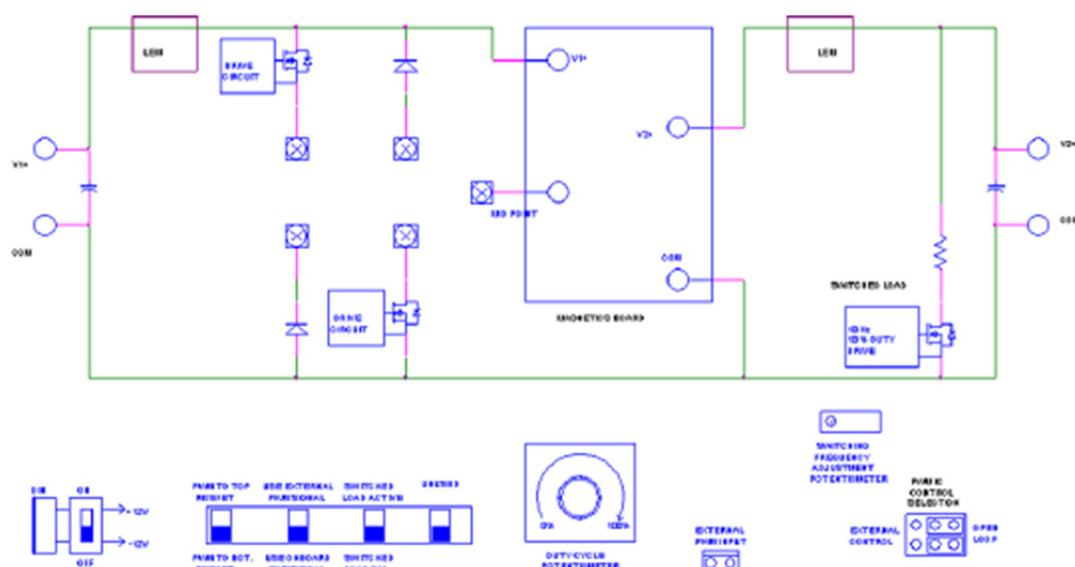
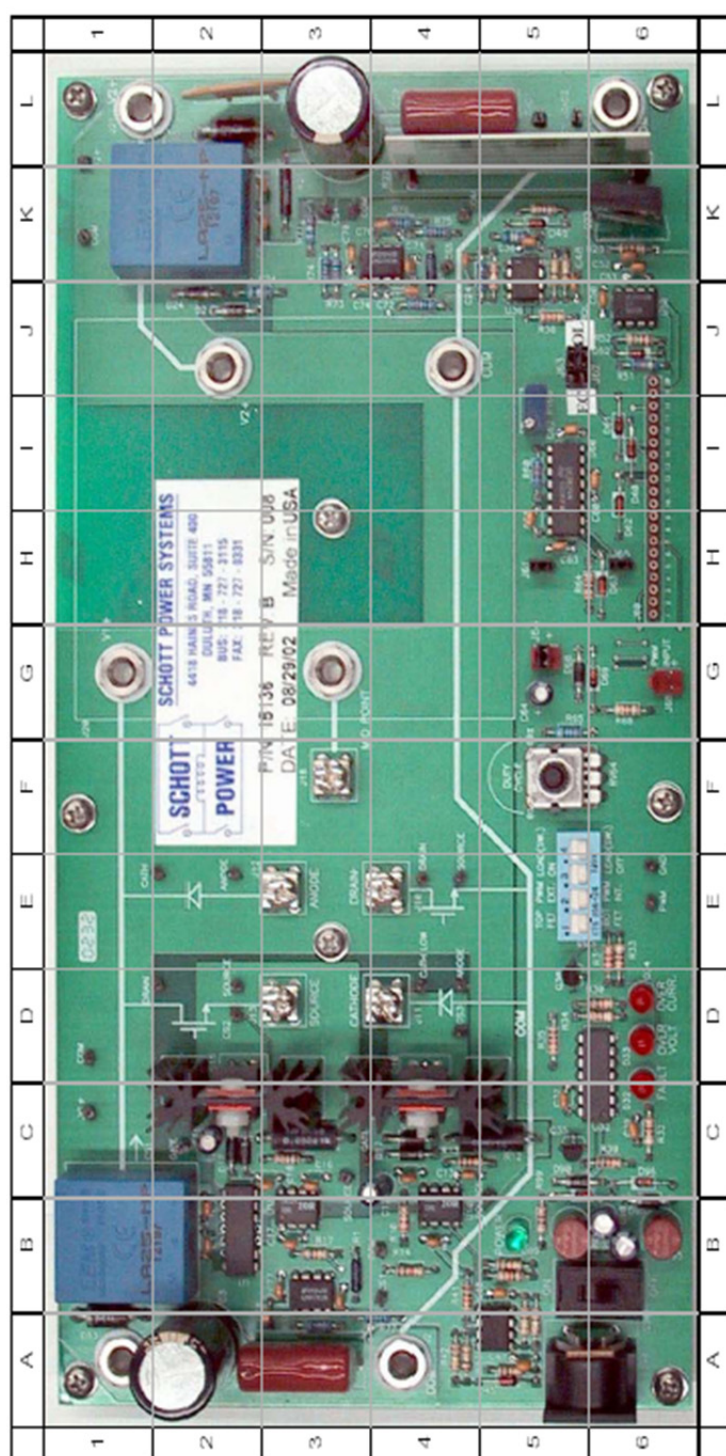

Figure 1.1: Block Diagram of Power-pole Board
Figure 1.2: Power-pole Board
The basic block diagram of the Power-pole Board is shown in Fig. 1.1 and the actual board is shown in Fig. 1.2. Please note that the locations of the various components on the board are indicated in Table 1.1.
- Connect the positive and negative terminals of an **oscilloscope probe** to the *DRAIN* and *SOURCE* (D-2 in Fig. 1.2) of the upper MOSFET.
- Connect the positive and negative terminals of an **oscilloscope probe** to terminals CS2 and *SOURCE* (D-2 in Fig. 1.2) of the upper MOSFET. The current sense resistor value is 0.05Ω.
- Connect an oscilloscope probe to the *DRAIN* and its ground to the *SOURCE* (E-4 in Fig.1.2) of the lower MOSFET.
- Connect an oscilloscope probe to terminal CS3 and its ground to the *SOURCE* (E-4 in Fig.1.2) of the lower MOSFET. The current sense resistor value is 0.05 Ω. The same test points also measure the lower diode current if that is included in the circuit.
- Connect the positive and negative terminals of an **oscilloscope probe** to terminals *CATH* and *ANODE* (E-2 in Fig. 1.2) of the upper diode.
- Connect an oscilloscope probe to *CATH LOW* and its ground to the *ANODE* of the lower diode (D-4 in Fig. 1.2).
± 12 volts signal supply is required for the MOSFET drive circuits and also the measurement and protection circuits. This is obtained from a wall-mounted isolated power supply, which plugs into the DIN connector J90 (A-5 in Fig. 1.2). Switch S90 (B-6 in Fig. 1.2) controls the signal power to the board. Each time a fault occurs, turn off and turn on this switch to reset the board. The green LED D99 (B-5 in Fig. 1.2) indicates if the $+12$ V signal supply is available to the board. Fuses F90 (B-5 in Fig. 1.2) and F95 (B-6 in Fig. 1.2) provide protection for the $+12$ V and -12 V supplies respectively.
Any external load needs to be connected across terminals V2+ and COM (L-1 and L-6 in Fig.1.2).
An onboard switched load is provided to facilitate the observation of the transient response of any converter built using the power-pole. Thus, it is possible to periodically switch in and out a $20\ \Omega$ load (K-4 to K-6 in Fig. 1.2). The frequency and duty ratio of this load is fixed at 10 Hz and 10%.
- Put switch 3 of selector switch bank S30 (E-5 in Fig. 1.2) to the top position (Load (SW) ON).
- Connect the positive and negative terminals of an **oscilloscope probe** to CS LOAD 1 and CS LOAD 2 (L-5 in Fig. 1.2). This measures the voltage across the $20\ \Omega$ resistor.
- Connect the oscilloscope probe to test point V1+ (C-1 in Fig. 1.2) and its ground to COM (D-1 in Fig. 1.2).
- Connect the oscilloscope probe to test point V2+ (L-1 in Fig. 1.2) and its ground to COM (K-1 in Fig. 1.2).
LEM current sensors (B-1, K-2 in Fig. 1.2) are provided to measure the input and output currents. The input current sensor is located after the input filter capacitor, and the output current sensor is located before the output filter capacitor. Calibration of these current sensors is such that for 1A current flowing through each, the output is 0.5 V. So these sensors are actually current to voltage converters. These signals are amplified by a factor of 2 and are brought out to the daughter board connector J60, for use in feedback current control. Currents through the MOSFETs and output capacitor are measured using current sense resistors. Refer to Table 1.2 for details of the various current measurement test points.
- Connect oscilloscope probe to CS1 (B-4 in Fig. 1.2) and its ground to COM (B-4 in Fig.1.2).
- Connect oscilloscope probe to CS5 (K-4 in Fig. 1.2) and its ground to COM (K-4 in Fig.1.2).
- Connect oscilloscope probe to CS4 (K-3 in Fig. 1.2) and its ground to COM (K-3 in Fig.1.2). The current sense resistor value is 0.1 Ω .
The power-pole MOSFETs are driven by high side drivers IR2127. These drivers have in-built over current protection using a current-sense resistor for each MOSFET (see locations C-3 and C-5 in Fig. 1.2). The voltage across these sense resistors can be observed using test points provided on the board.
PWM signals required for the MOSFETs can be generated using the on-board PWM controller UC3824 (I-5 in Fig. 1.2). There is also an option to supply PWM signals from an external source.
- Put switch 2 of the selector switch bank S30 (E-5 in Fig. 1.2) to its bottom position (PWM INT.).
- Connect the external PWM signal to the terminal J68 (G-6 in Fig. 1.2).
While using the onboard PWM for operation of the power-pole in open-loop, the duty ratio can be controlled using pot RV64 (F-5 in Fig. 1.2). The duty ratio can be varied from 4% to 98%. The frequency of the PWM can be adjusted using the trim pot RV60 (I-5 in Fig. 1.2). There is a provision for providing an external ramp to the UC3824 IC. This is useful for peak current mode control. For this, remove jumper J61 (H-5 in Fig. 1.2) and use the RAMP pin on daughter board connector J60.
Frequency analysis of any converter built using the power-pole can be done by injecting a low voltage sinusoidal signal at jumper J64 (G-5 in Fig. 1.2). To do this,
The power-pole board can be operated in either open or closed loop and is selected by jumpers J62 and J63 (J-5 in Fig. 1.2). For open loop operation,
Take some time to examine Fig. 1.1. This figure outlines the basic structure of the board. Refer to this figure when making connections and inserting the magnetic boards. Now refer to Fig. 1.2. Use this figure in conjunction with Table 1.1 in order to locate particular board components. Table 1.2 describes useful test points and their location on the board. Note that the current-sensing resistor value of the MOSFETs is $0.05\ \Omega$. Remember to take care whenever you are using oscilloscope probes to measure voltage. If the measurement reference potential is different to the oscilloscope reference potential, you must use oscilloscope connections as shown in Figure 2.